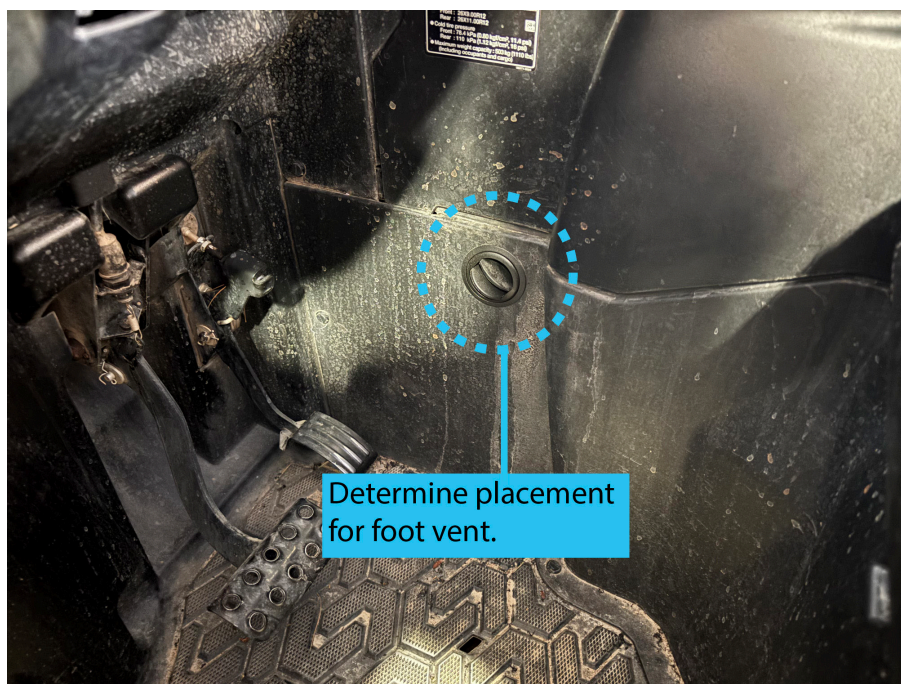

FIGURE 8
33. Locate and mark a spot in the driver footwell for a vent. FIGURE 8